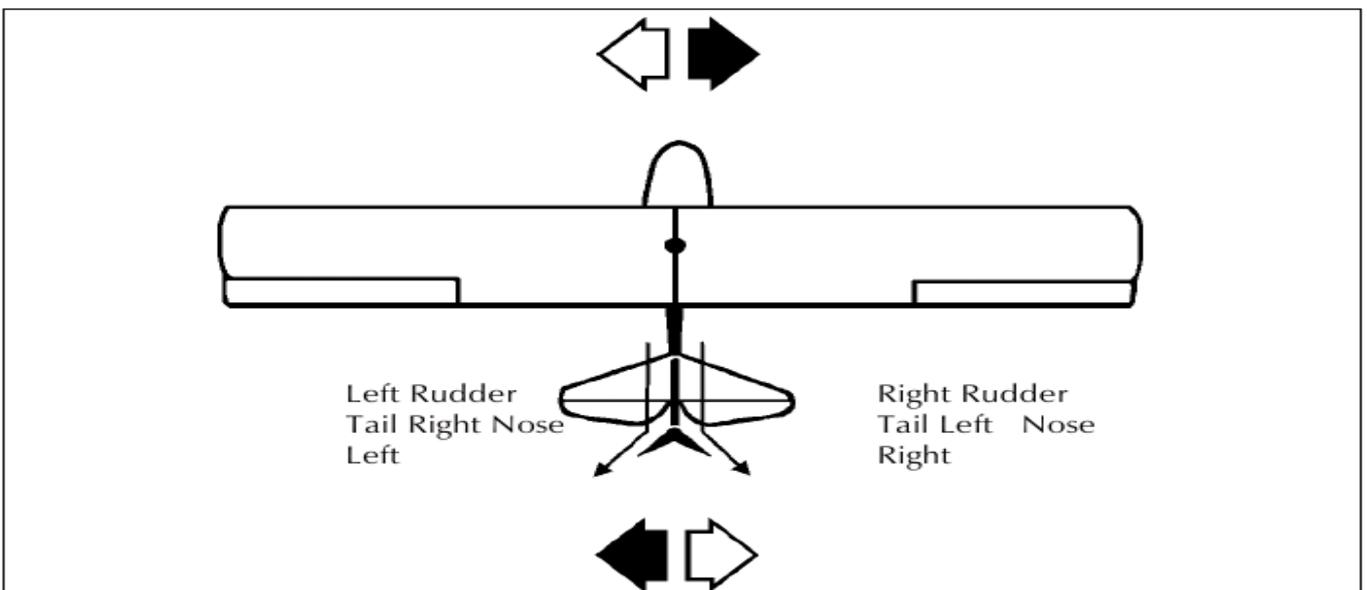

Fig. 17 Effect of Rudder.
- **Rudder** The rudder surface controls movement of the microlight about its vertical or normal axis, which is called yaw. Much like the elevator, the rudder is a hinged surface which may swing from left to right and is attached to what is called the vertical stabiliser or fin. Its action is similar to the elevator except that it produces movement in yaw axis, swinging the nose from side to side. It is controlled by the rudder pedals. Application of the left pedal starts a yaw to the left and the right pedal to the right. See Fig. 17. The rudder is normally not used to initiate turning of the microlight, but rather to balance the turn, as we shall see shortly.